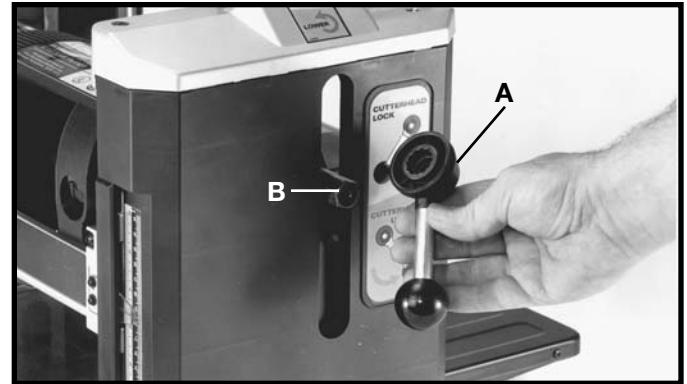

Fig. 5
1. Assemble the cutterhead lock handle (A) Fig. 5, to shaft (B).